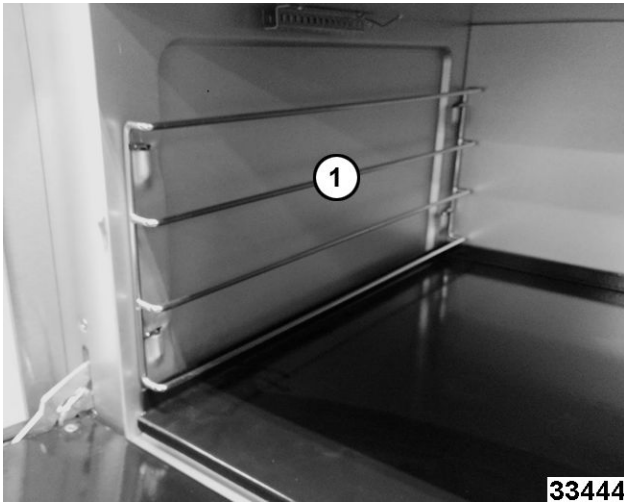

Fig. 6
1. Remove oven racks. Lift up and pull out rack guides (1, Fig. 6).